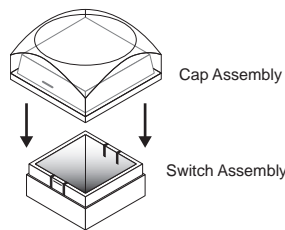

Figure 3.21 Re-Installing the Cap Assembly
5. Aligning the notches on the sides of the **Cap Assembly** to the tabs on the side of the **Switch Assembly**, press **Cap Assembly** down onto the **Switch Assembly** with a rolling motion until they click together (**Figure 3.21**).